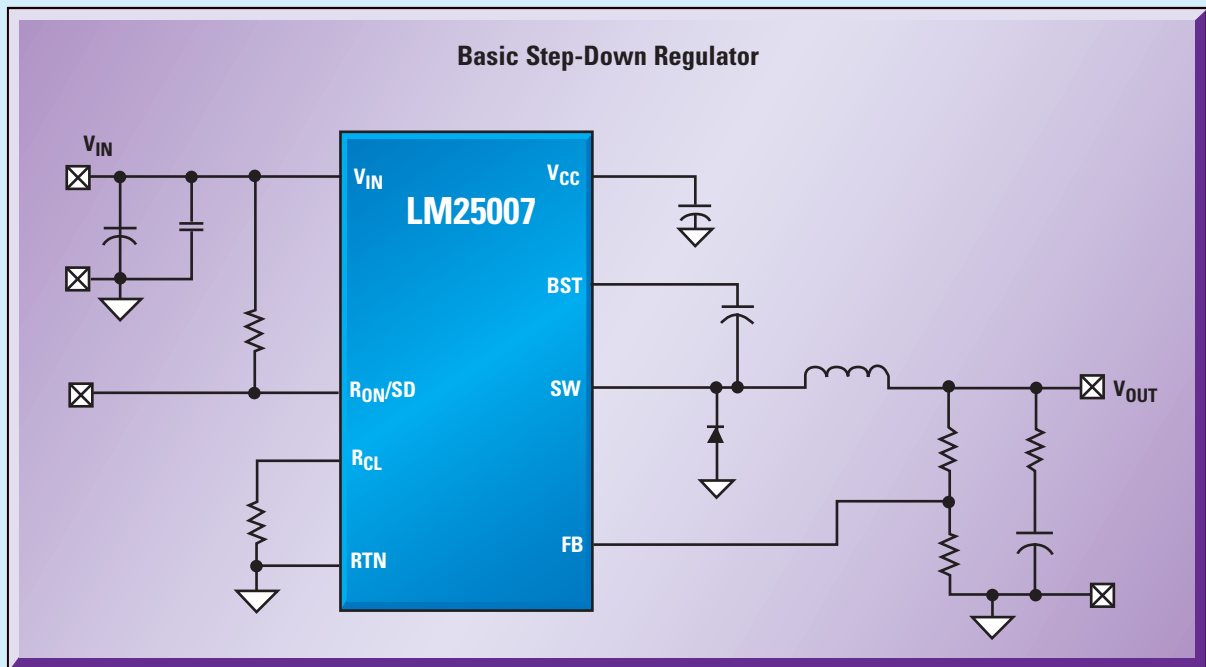

**Figure 2. Emulated Current-Mode Regulator**
Propagation delays and switching transients makes it difficult to use current-mode control for large conversion ratio applications where very small on-times are required. Even with the best design practices, current sense and level shift circuits will add significant propagation delay. In addition, when the buck switch turns on, the reverse recovery current into the free-wheeling diode (D1) causes a leading-edge current spike with an extended ringing period (See *Figure 2*.) This spike can cause the PWM comparator to trip prematurely. Attempts to filter or blank this leading-edge spike reduces the minimum controllable on-time of the buck switch.
*Figure 2* presents the block diagram of the LM25005, an integrated buck regulator that implements the emulated current-mode control scheme described above. The free-wheeling diode anode is connected to ground through the